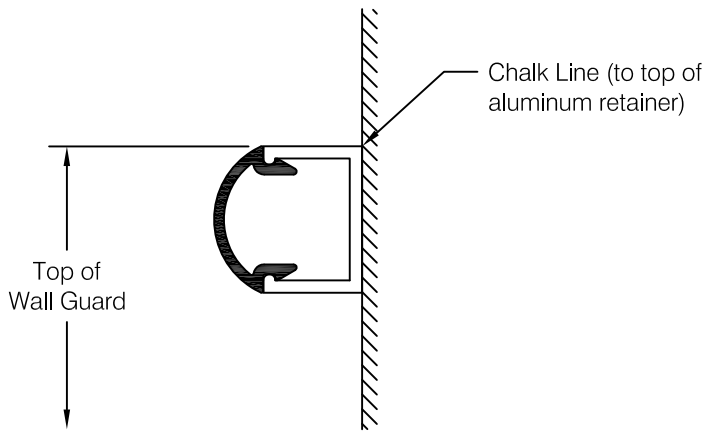

fig 1
Step 1 Determine top of bumper guard and snap a chalk line to locate top of retainer, see **fig. 1**.